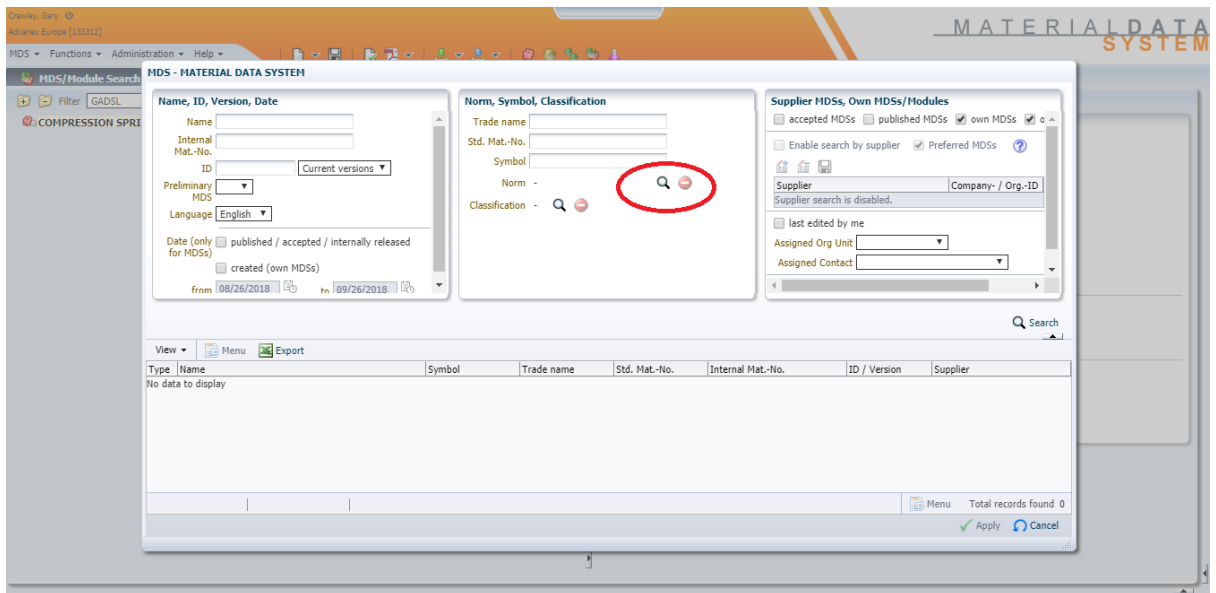

Fig.4
6. In the 'Norm, Symbol, Classification' section click the search icon for 'Norm'. (Fig4)